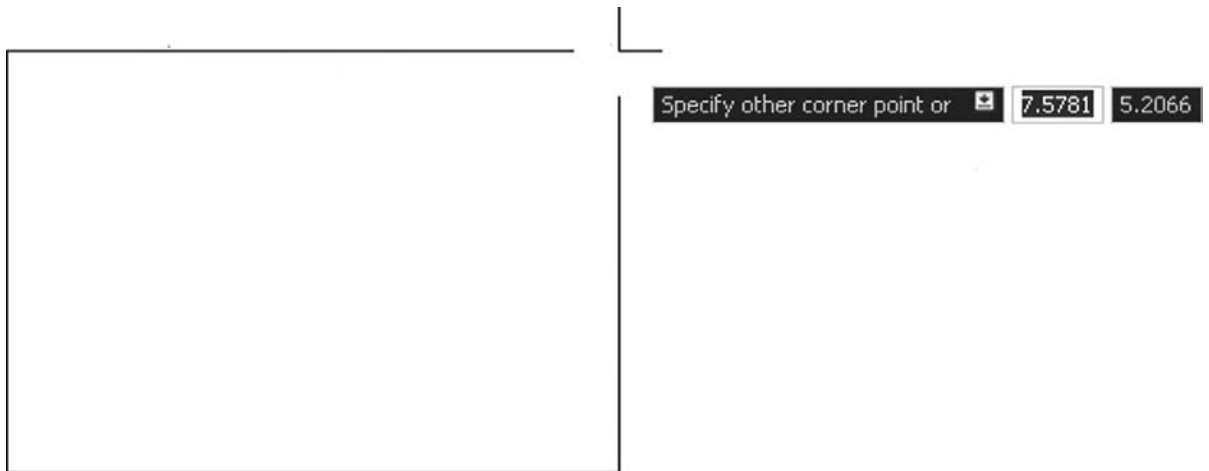

FIGURE 2.7
To use Dynamic Input to draw a rectangle (5" × 3" in this example), make sure DYN is on, begin the command, and click anywhere to start the rectangle. You see fields in which to enter the values for the height and width (Figure 2.7). As before, enter a new value in the first text field (5) and Tab over to the next field, entering the other value (3). As you press Enter, the 5" × 3" rectangle is created. Note of course that the first value is the *width* and the second value is the *height*.